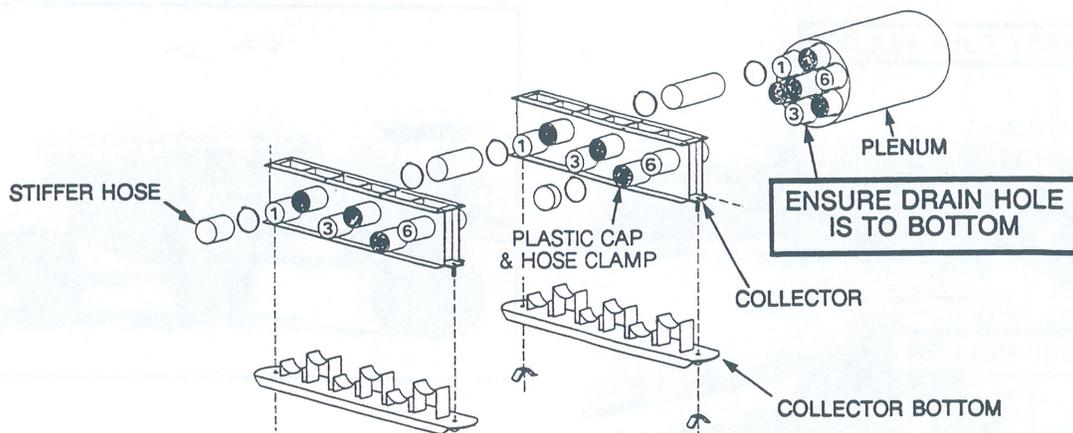

Figure 43
(A) For Units using 3 primaries for up to 30 runs, the plenum should be mounted to the fan and the collectors mounted to the metering bodies as shown in Figure 43.